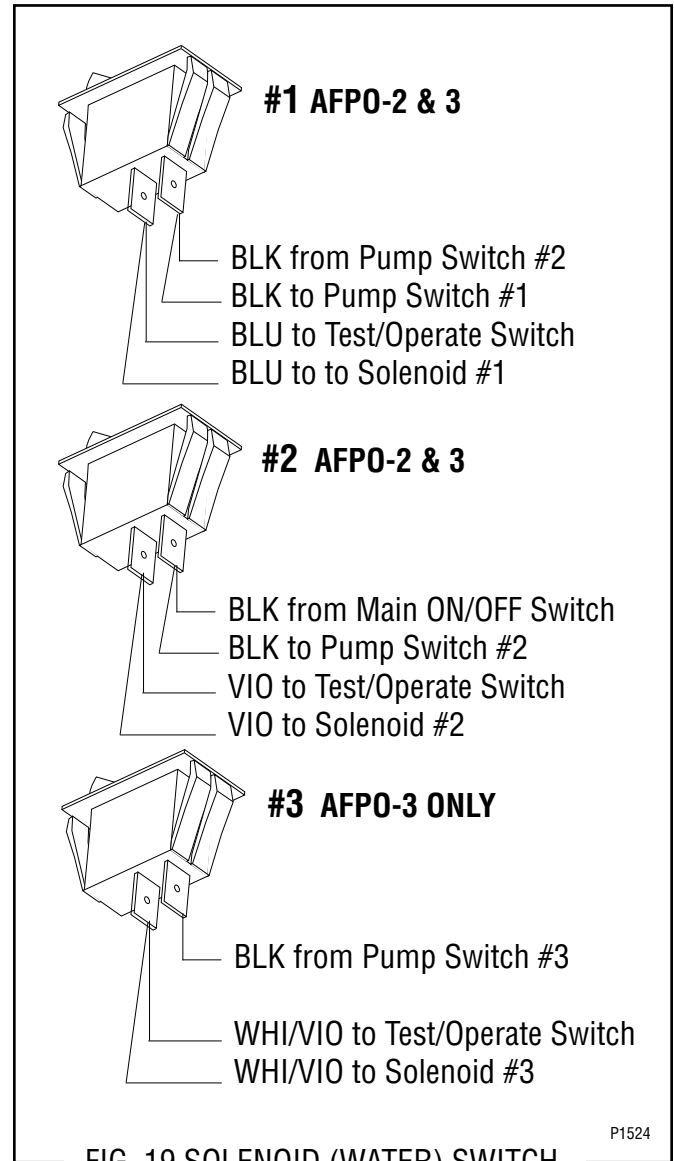

FIG. 19 SOLENOID (WATER) SWITCH TERMINALS
If continuity is present as described, refer to Fig. 19 and reconnect the wires to the switch.
4. Refer to Fig. 19 when reconnecting the wires.